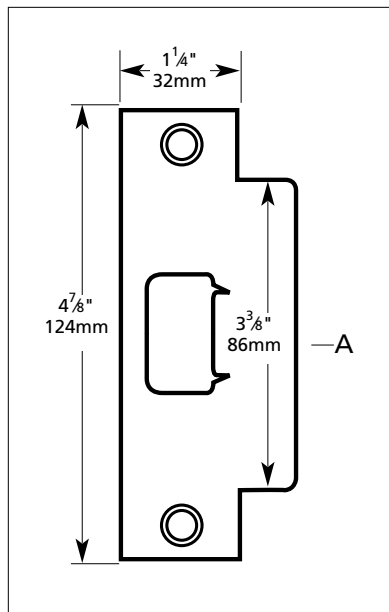

Figure 14
The center of the strike lip (A) (see Figure 14) must line up with the axis of rotation of the lever handle. Once the position of the strike has been established, follow the steps below: